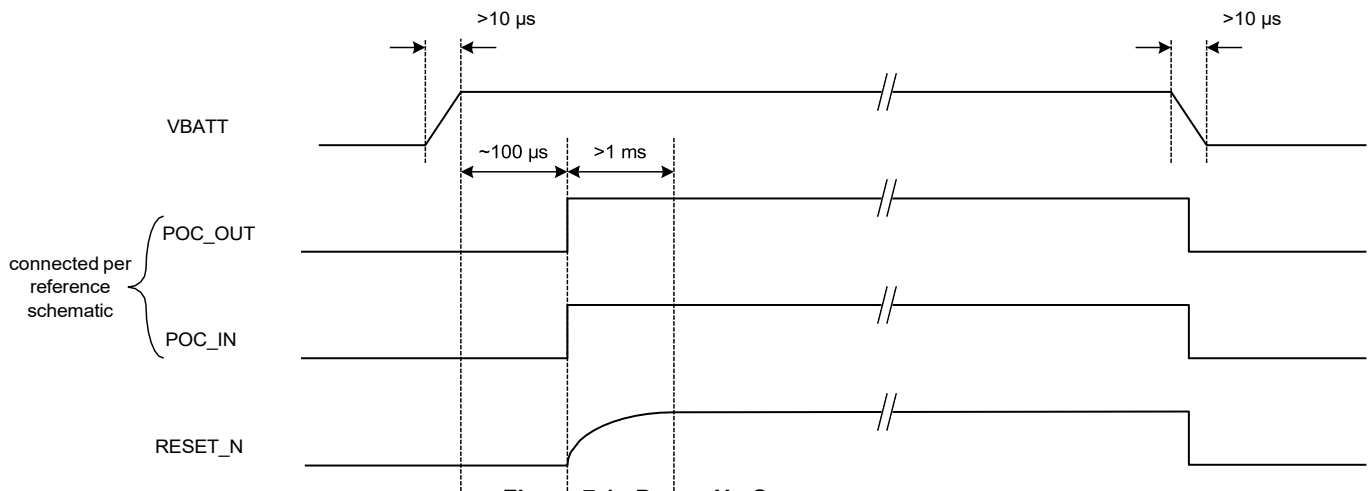

Figure 7.1. Power Up Sequence
- **RESET_N:** RESET_N is an open-drain signal which will be pulled low during a chip reset. It is released after POC_IN is high. RESET_N should be connected to an RC circuit to fulfill the timing requirements shown in Figure 7.1 Power Up Sequence on page 27.
Figure 7.1 Power Up Sequence on page 27 shows the signal timing when POC_OUT, POC_IN, and RESET_N are connected per the recommended schematic. The POC_IN-to-RESET_N delay will occur when POC_IN transitions from low to high.